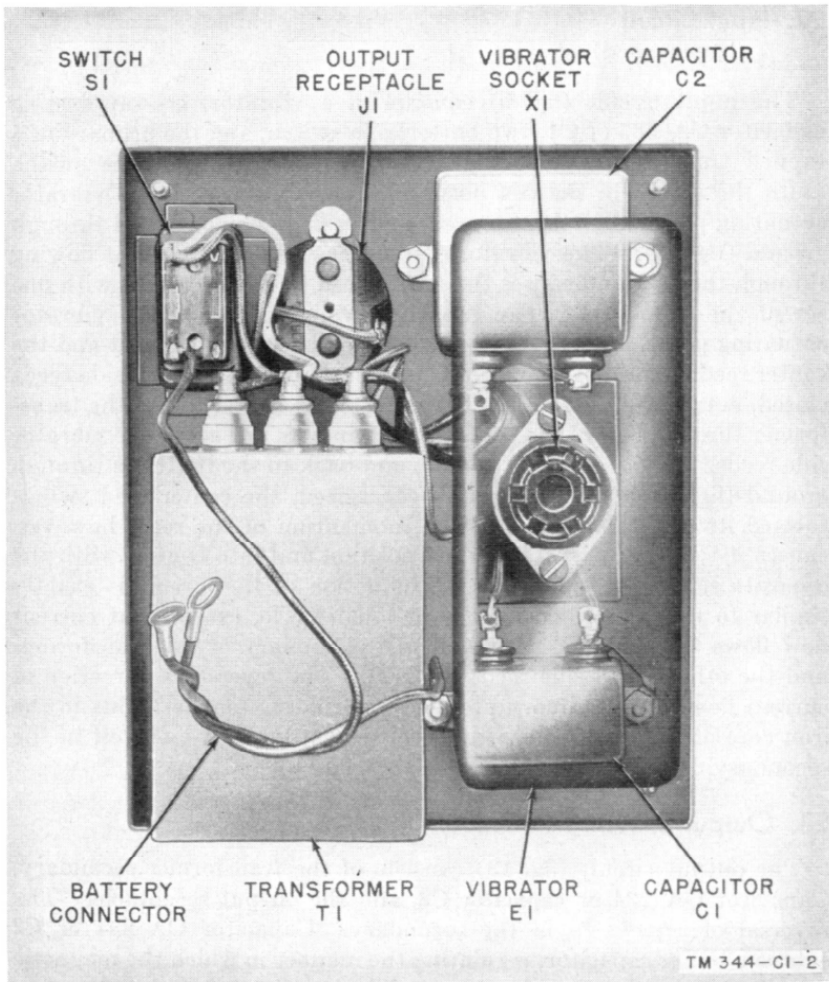

Figure 3.1 (Added). Converter M-222-A, inside view of right cover.
b. RIGHT COVER. The cover to the right of the nameplate, when the operator is facing the converter, is fastened to the box by four captive screws. These screws fasten into four tapped angle brackets welded to the corners of the box. All the circuit components, except the batteries, are mounted on the back of this cover (fig. 3.1). On the front of this cover are mounted the output receptacle and the power switch. This construction permits easy access to all circuit components by merely unscrewing the four captive screws and removing the right cover.